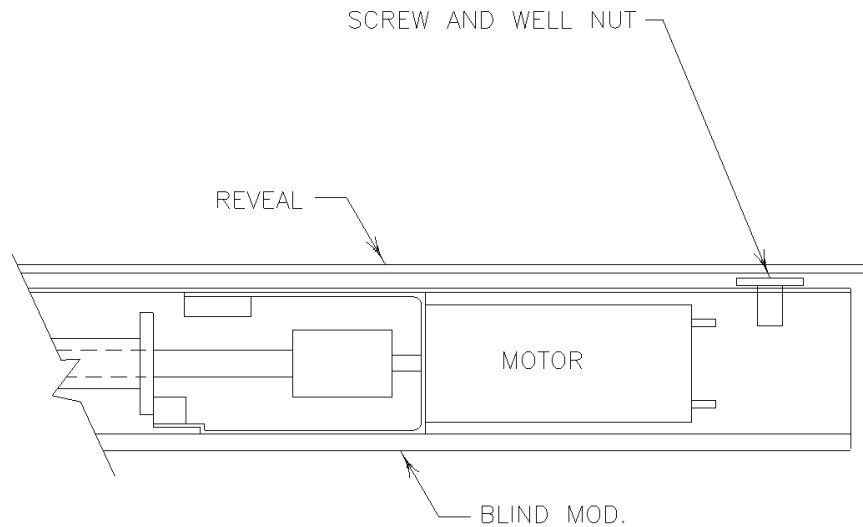

FIGURE 14/ GRAPHIC 25-23-03-991-014
- C. Reattach the blind mod. assy. by aligning the well nuts with the existing holes on the backside of the reveal, and secure in place with two AN525-832 screws. (See FIGURE 14/ GRAPHIC 25-23-03-991-014)